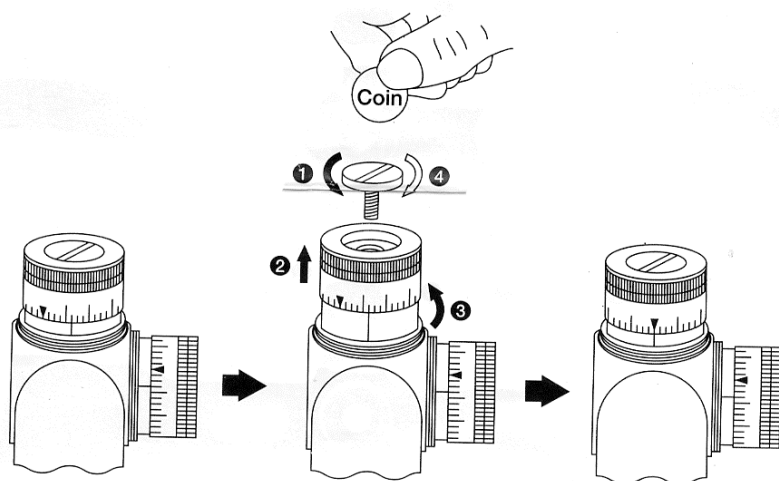

Fig. 3-7
- After the reticle has been adjusted to the point of impacts, with the grip held with your fingers to avoid shifting of the aligned grip, turn the grip screw in top of the grip counterclockwise with a coin. Then lift the grip up and align the “□” with the index mark. It may happen that the “□” could not align with the index mark exactly because of the coupling pitch of the grip with the shaft. And by securing the grip with your fingers to avoid shifting of the grip, turn the grip screw clockwise with the coin until the grip is firmly secured. (Fig. 3-7)